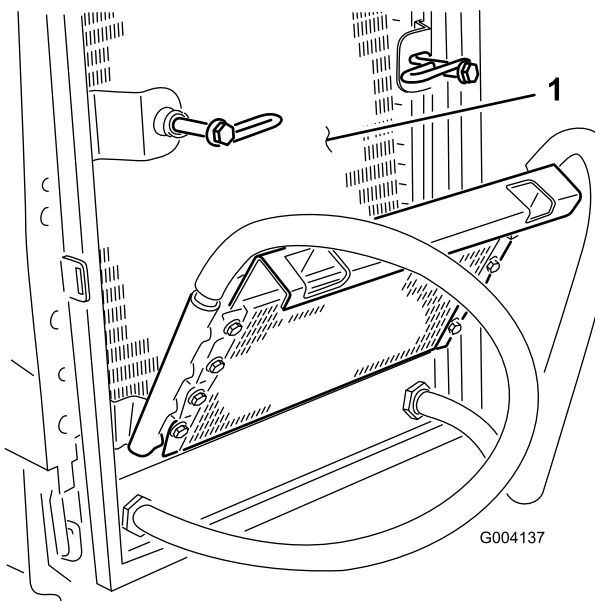

Figure 102
8. Thoroughly clean both sides of the oil cooler and the radiator (Figure 102) with compressed air.